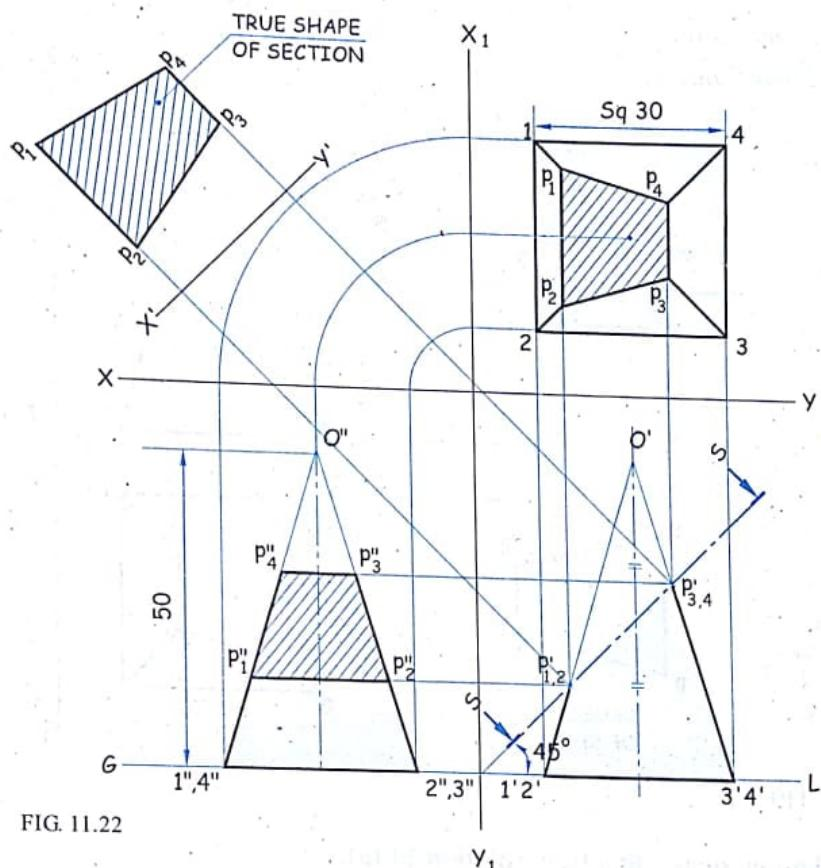

FIG. 11.22
Refer figure 11.22.
- (i) Draw the projectors through  $p'_1, p'_2, p'_3, p'_4$  perpendicular to section plane S-S from F.V. as shown in figure 11.22.